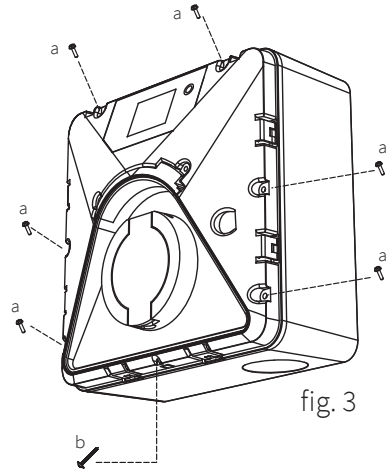

fig. 3
1. Using the security screwdriver bit supplied (found in the Installer kit), remove the 6 screws marked “a” and using a Phillips screwdriver, remove the single screw marked “b” from the front shell, save the screws for subsequent use. (Refer to fig. 3).